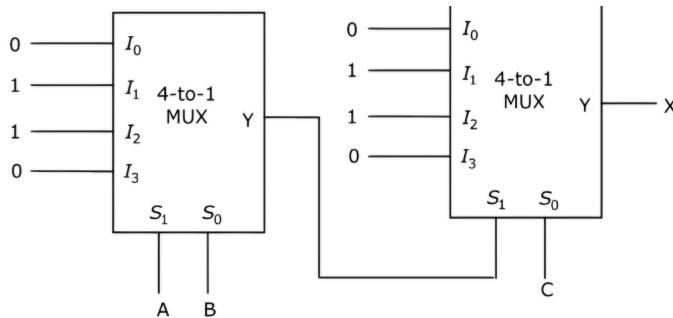

Fig. 4.22
46. Find X in the following circuit in Fig. 4.22